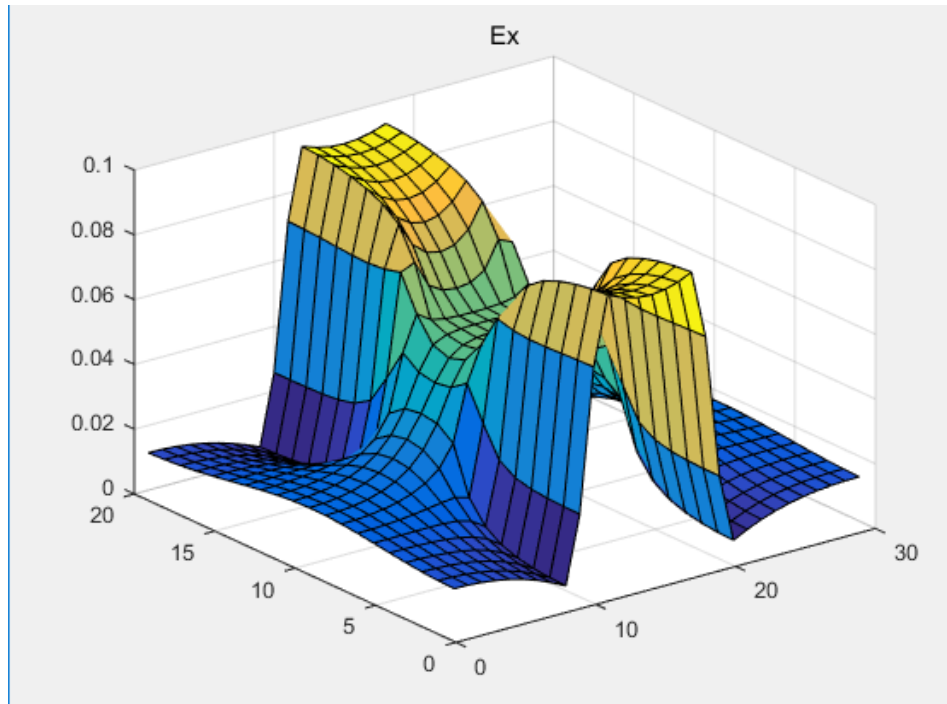

Figure 6: $E_x(x,y)$
- Surface plot for Ex(x,y) is shown in Figure 6.